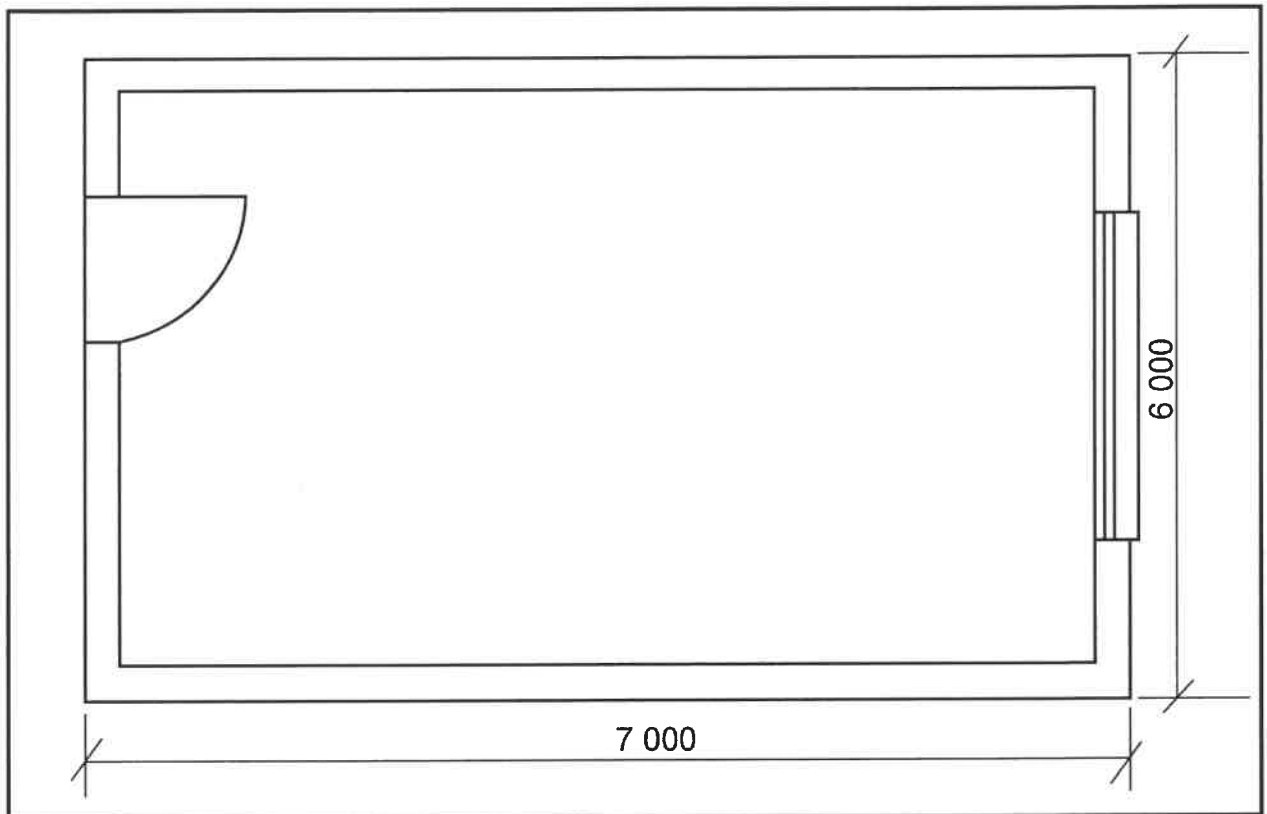

FIGURE 6.7
- 6.7 FIGURE 6.7 below shows the floor plan of a building with a window and a door.